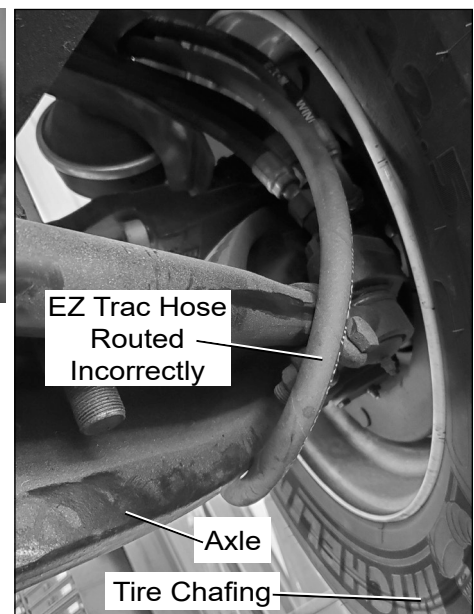

Figure 2 – Inspecting Tire and Hose
4. Visually inspect the inside of the front tires for any signs of rubbing or chafing on chassis components (refer to Figure 2).
5. Visually inspect the EZ Trac hydraulic hoses for any signs of rubbing, chafing, or leaks. Also inspect the EZ Trac hoses for routing that goes under any axle or suspension components or routing that could otherwise cause potential wear or snagging of the hoses (refer to Figure 2).